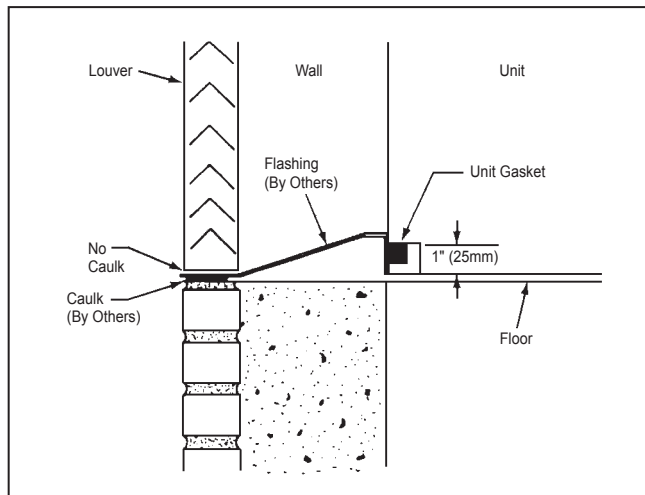

Figure 1. 16⁵/₈" (422mm) Deep Unit with Open Pipe Tunnel & Standard Louver Application
1. If the fresh air opening has not yet been made, refer to Figures 1 through 4 for the recommended locations. Consult approved architectural plans for exact location.